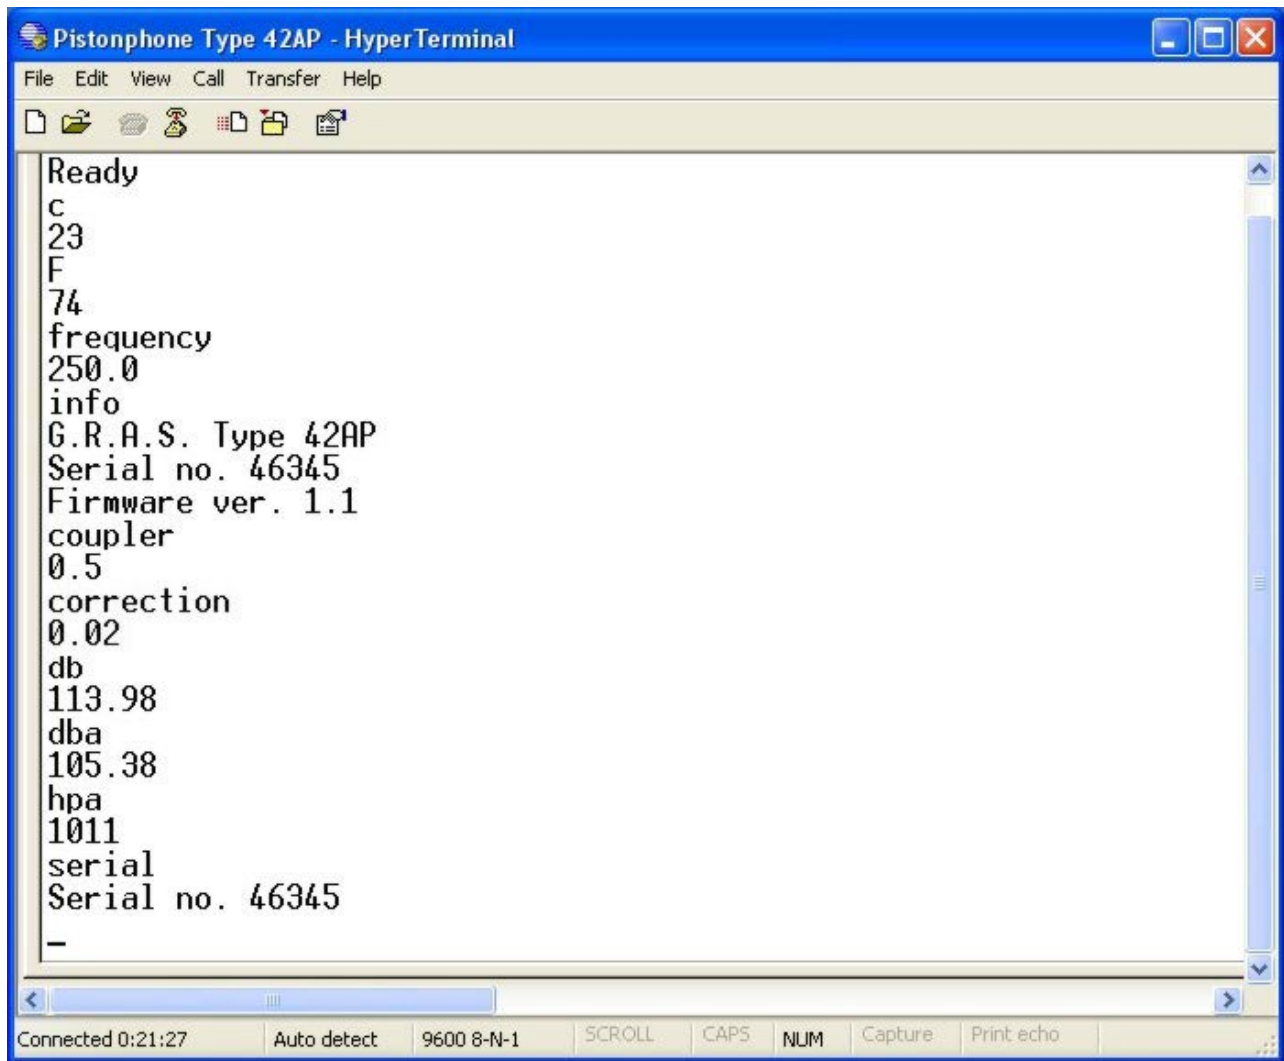

Fig. 3 Example of a dialogue showing interrogational commands and responses
1. Interrogational commands which return information about the Pistonphone, its set-up parameters and measured ambient conditions (see examples in Fig. 3).